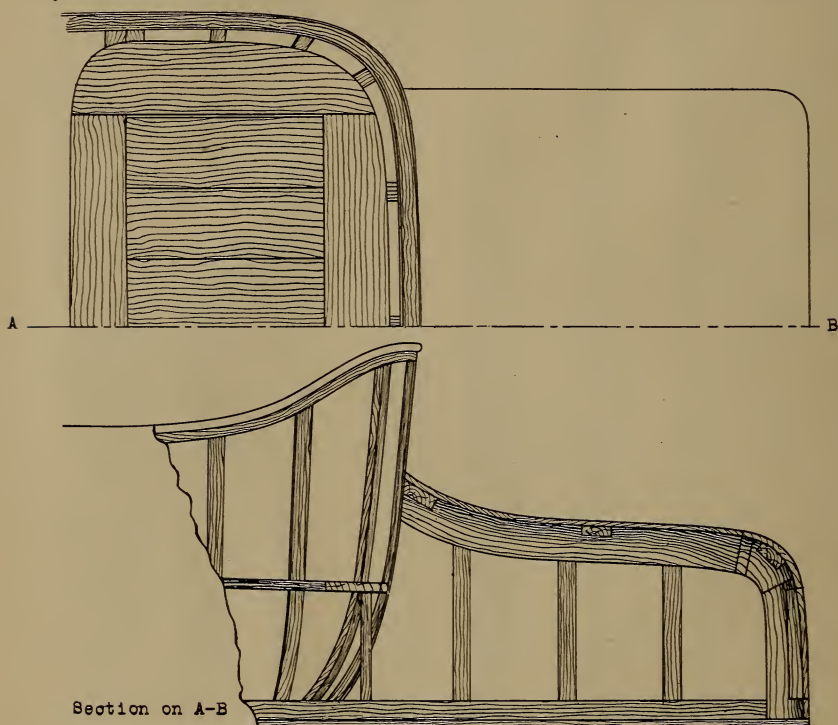

Fig. 19. Drawing showing Sections and Cross-hatching.
1. SECTIONS. In order to make the construction of an object more clear, it is often desirable to show the interior. This is accomplished by means of a section, i. e. the near portion of the object is considered to be cut away and the lines drawn to show the interior, Fig. 19.